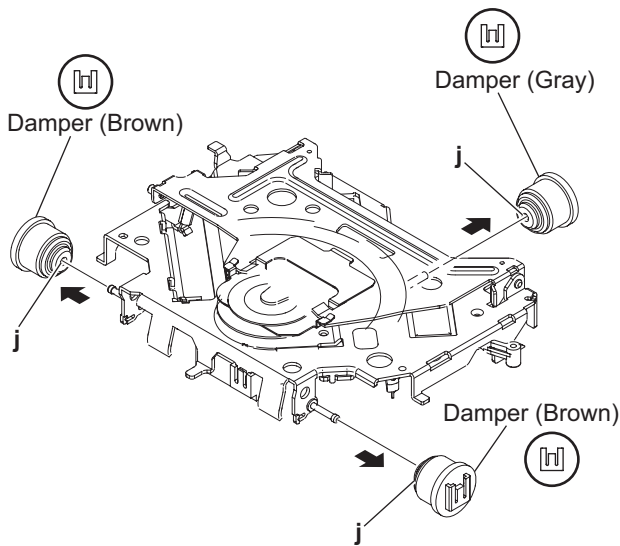

Fig.16
**3.2.8 Removing the damper (See Fig.16)**